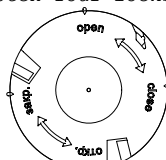

Figure 4
b) following the instructions on smoke chamber (see Figure 4), turn the cover and take it off together with wire mesh being cautious in order not to damage the screen shielding wire;